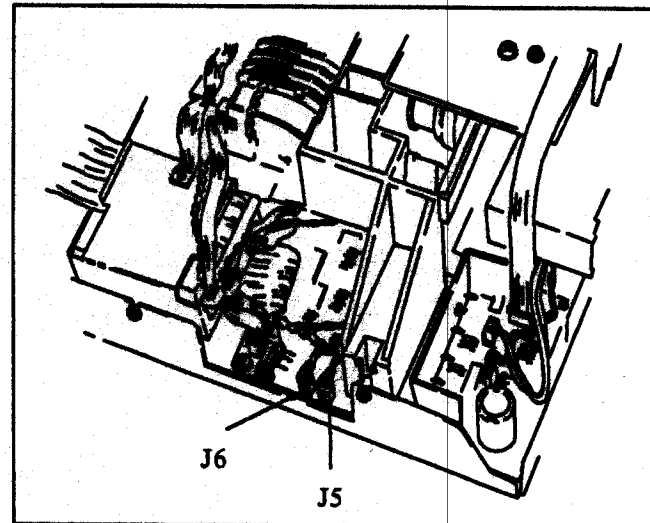
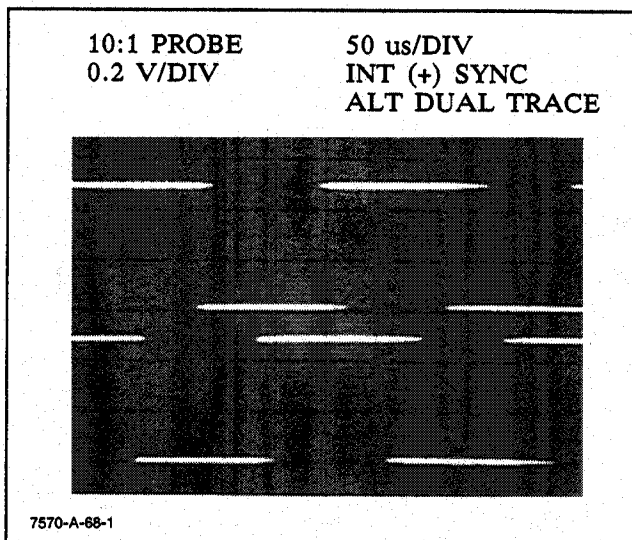

Figure 8-4. Main PCA Motor Cable Connections
Figure 8-6. Motor Encoder Output
- a. Turn the plotter OFF (O).
- d. Disconnect the pen and paper motor cable assemblies from the Main PCA at J5 and J6. See Figure 8-4.
- j. While pressing either the UP cursor or DOWN cursor button, monitor the output of the motor encoders with the oscilloscope at pins 3 and 5 of J7 on the Main PCA. See Figure 8-4. The waveforms should appear similar to the one in Figure 8-6.
pins 3 and 5 of J8 on the Main PCA. See Figure 8-4. The waveforms should appear similar to the one in Figure 8-6.